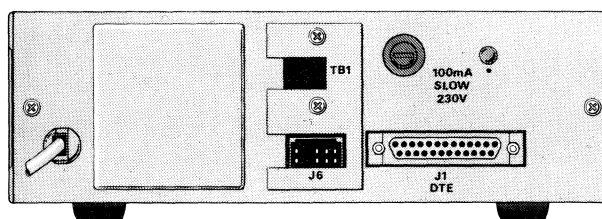

Figure 4 Rear Panel
- Connect the DTE to the standard 25-pin connector, J1, located on the modem rear panel (Figure 4). This connector is designated J3 on the printed circuit board.